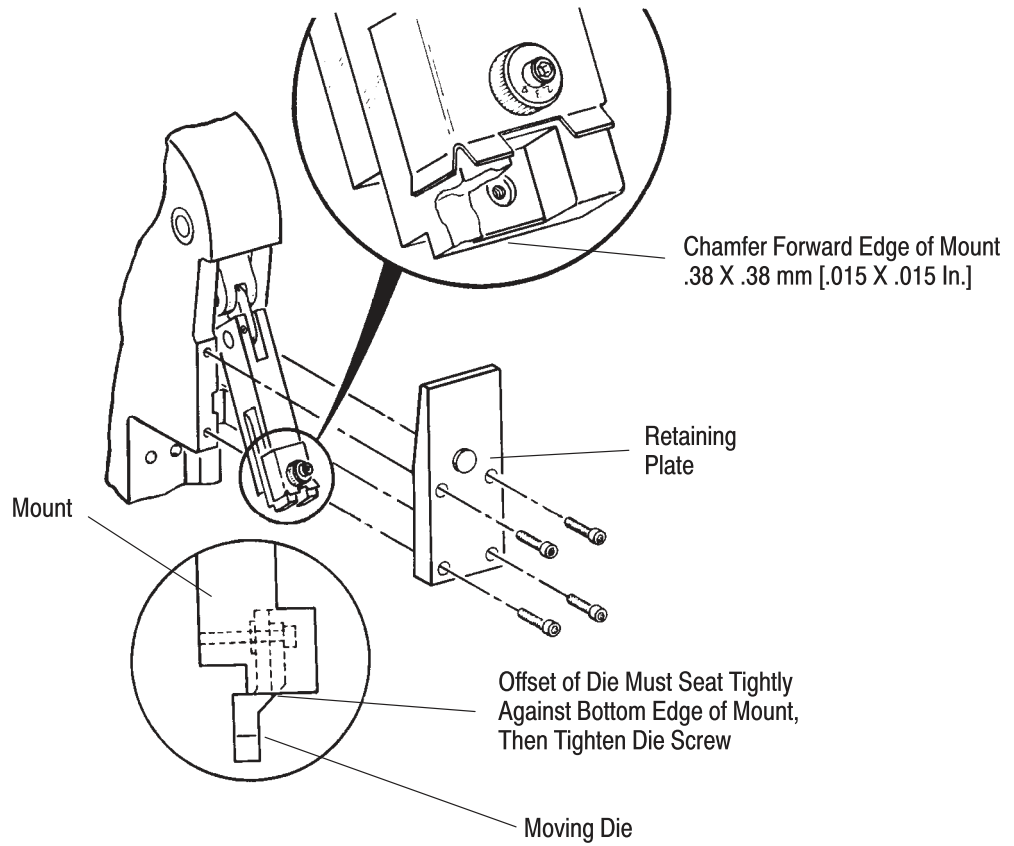

Figure 27
13. Remove the ram retaining plate by removing four screws. See Figure 27.